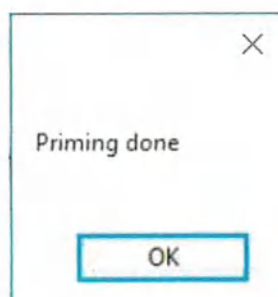

Figure 50
9.5.6.6 When the message below appears after running the peristaltic pump, click the "OK" button and close the window [Figure 50].